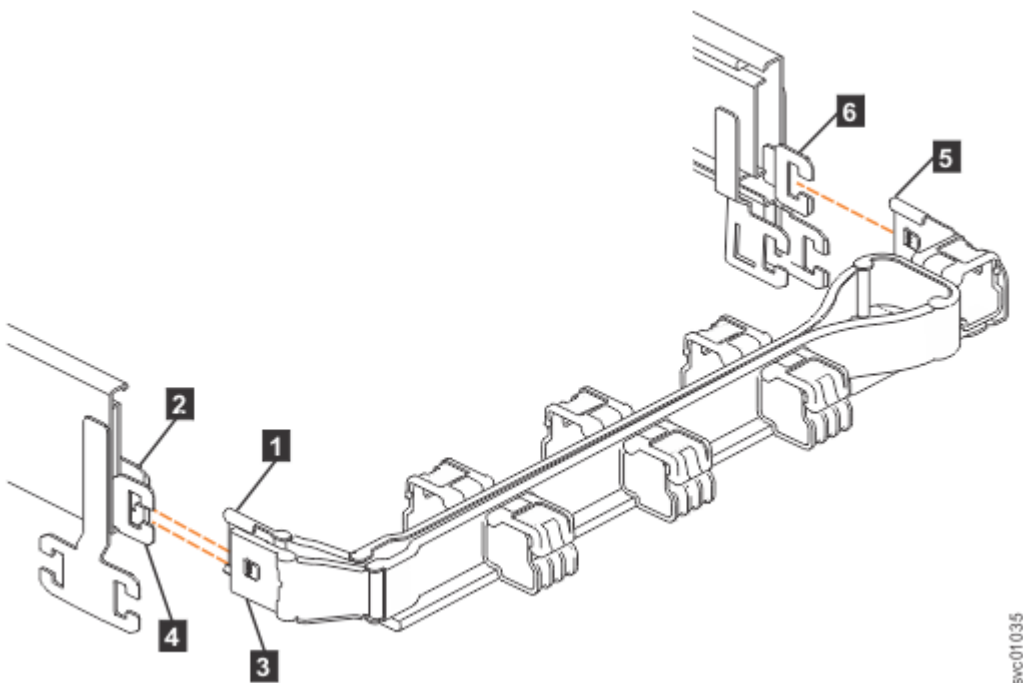
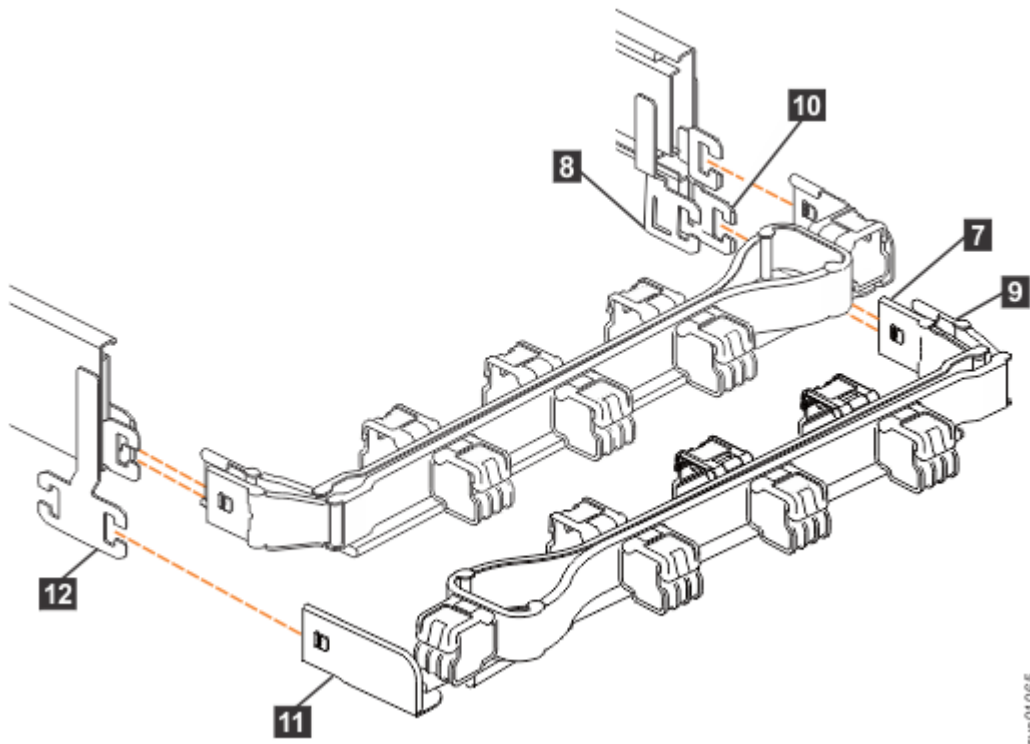

Figure 65. Connectors for the upper cable management arm
Figure 66. Components of the lower CMA assembly
The connectors of the CMA are installed on the rail hooks at the end of the support rails. Figure 65 on page 60 shows the connectors on the upper CMA assembly.
1. Press the latch on the connector base on the upper CMA assembly (**5** in Figure 65 on page 60).
2. Pull the connector to remove it from the connector base on the right support rail (**6** in Figure 65 on page 60).
3. Press the latch on the outer connector of the upper CMA assembly (**3** in Figure 65 on page 60).
4. Remove the outer connector from the inner member of the left support rail (**4** in Figure 65 on page 60).
5. Remove the inner connector of the upper CMA assembly (**1**) from the inner member of the left support rail (**2**), as shown in Figure 65 on page 60.
Note: The procedure for removing the lower CMA assembly is the same as the procedure to remove the upper CMA assembly. However, the connector locations are reversed. For example, the connector base of the upper CMA (**5** in Figure 65 on page 60) connects to the right rail. The connector base of the lower CMA (**11** in Figure 66 on page 61) attaches to the left rail.
6. Remove the connector base on the lower CMA assembly (**11**) from the connector on the left support rail (**12**), as Figure 66 on page 61.
7. Remove the inner connector of the lower CMA assembly (**9**) from the outer member of the right support rail (**10**), as shown in Figure 66 on page 61.
8. Remove the outer connector of the lower CMA assembly (**7**) from the inner member of the right support rail (**8**), as shown in Figure 66 on page 61.